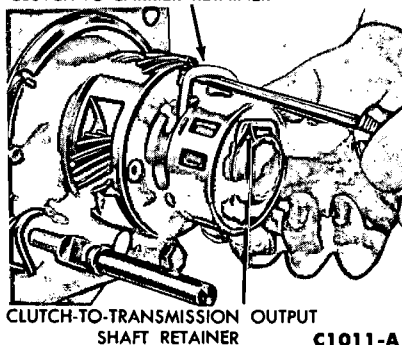

FIG. 9—Removing Free Wheel Unit Retainer
11. Remove the free-wheel unit retainers (Fig. 9). Then remove the clutch, planet carrier, sun gear, and shift rail.